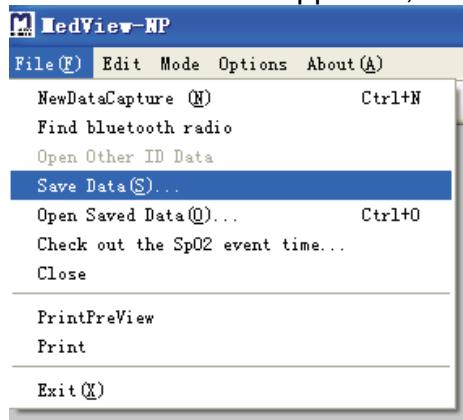

Figure 8-5
By choosing the “Save data (S)” menu as shown in Figure 8-5 you can save the current patient’s data information to data document. Three extensions are supported, .dat, .txt and .xls.